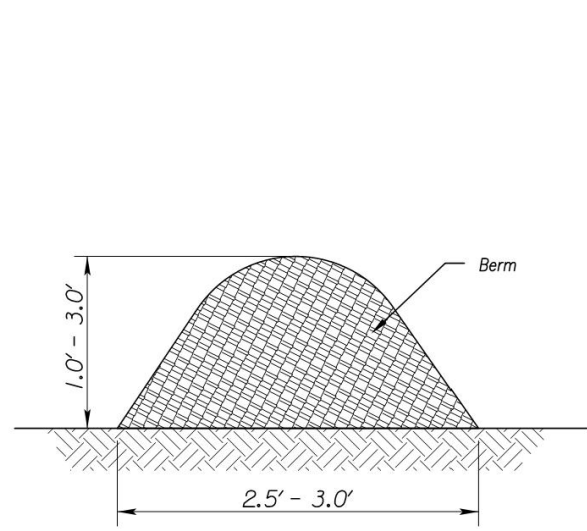
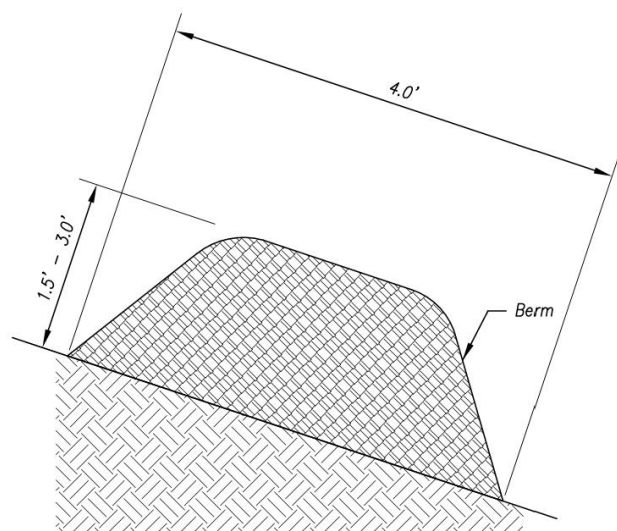

Figure 1
Figure 2
2. Parallel to the base of the slope, or around the perimeter of other affected areas, construct a 1 to 3 foot high by 2.5 to 3 foot wide berm (see Figure 1). For maximum water treatment ability or for steep slopes, construct a 1.5 to 3 foot high trapezoidal berm that is a minimum of 4 feet wide at the base (see Figure 2). In extreme conditions, or where specified by the engineer, a second berm shall be constructed at the top of the slope. Engineer will specify berm requirements.